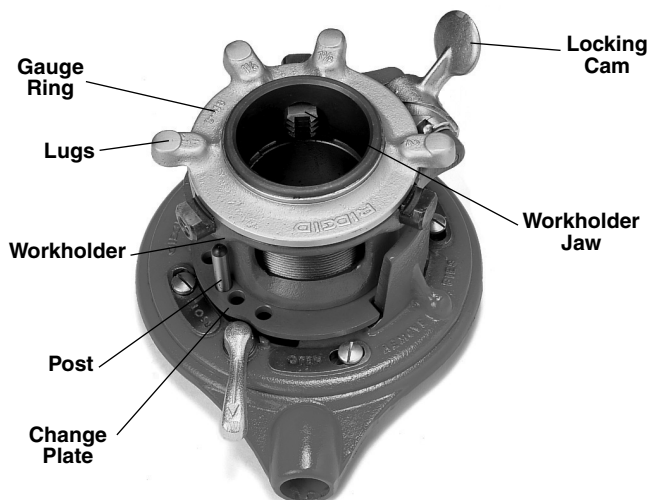

Figure 2 – 65R-TC Threader
65R-TC: Turn gauge ring until desired pipe size is aligned with locking cam (Figure 2).
- Secure workholder on the pipe by tightening the clamp screw (*Figure 1*) or the locking cam (*Figure 2*).